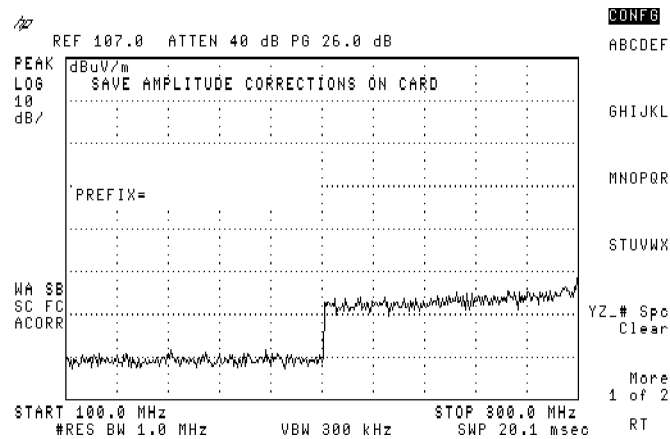

Figure 3-95. Clearing the Prefix
5. Press **Clear** to clear the previous prefix. See Figure 3-95.